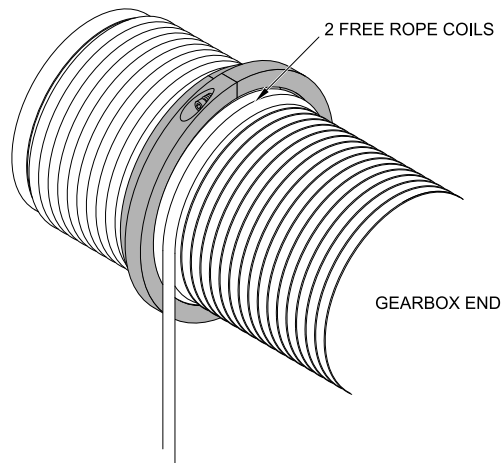

Figure 33 – Rope Guide Inner Band Fitted
- Position the inner band assembly over the rope such that 2 free rope coils remain unclamped and tighten the capscrew on the spring side 5Nm (see Figure 33).